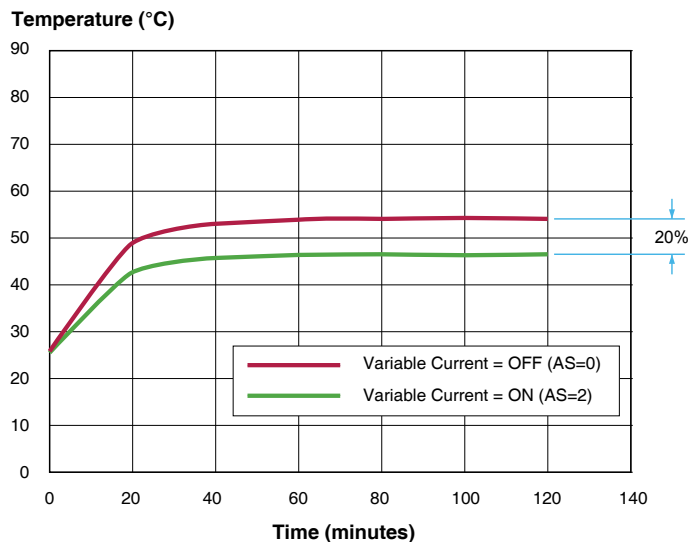

Figure 5: Temperature rise - moderate duty cycle
In Figure 5, we show the comparison of the motors running with a moderate duty cycle. In this graph we see the impact of Variable Current Control manifested in a 20% difference in the temperature, thus greater power efficiency.
**Figure 5 test conditions:** Power supply: 48 VDC regulated, Load: 26 oz-in (18.3 N-cm), Move profiles: 1 rev/sec CW 1.5 seconds, wait 10 seconds, 1 rev/sec CCW 1.5 seconds, wait 10 seconds, repeat.